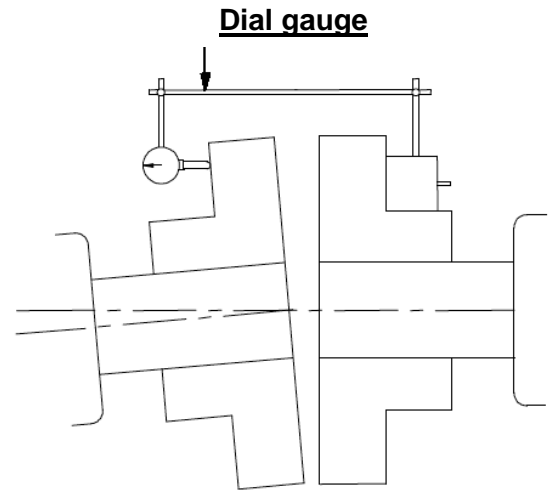

Figure 7.5: Measurement with a dial gauge
Alternatively, a measurement can be carried out with the dial gauge. To do so, place the dial gauge holder on a hub (item 1) and the volumetric flask onto the processed plane surface of the other hub (item 2) as displayed in figure 7.5. It should hereby be placed as closely to the outer diameter as possible. With coupling REK...DQO, turn the hub one full revolution and record the full deflection. The deflection provides the indicator value for the angular misalignment in mm.